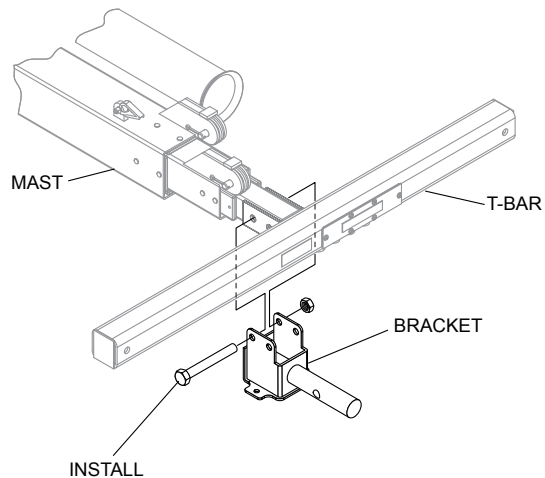

Figure 7. Installing Bracket
2. Install the bracket to the T-bar and mast interface with the new screws and nuts provided. See Figure 7.